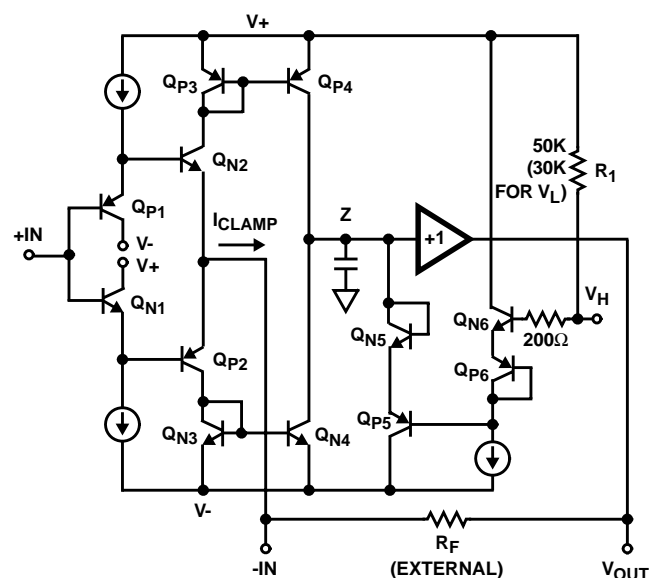

FIGURE 1. HFA1130 SIMPLIFIED V_H CLAMP CIRCUITRY
Figure 1 shows a simplified schematic of the HFA1130 input stage, and the high clamp (V_H) circuitry. As with all current feedback amplifiers, there is a unity gain buffer ($Q_{X1} - Q_{X2}$) between the positive and negative inputs. This buffer forces $-IN$ to track $+IN$, and sets up a slewing current of $(V_{-IN} - V_{OUT})/R_F$. This current is mirrored onto the high impedance node (Z) by $Q_{X3} - Q_{X4}$, where it is converted to a voltage and fed to the output via another unity gain buffer. If no clamping is utilized, the high impedance node may swing within the limits defined by Q_{P4} and Q_{N4} . Note that when the output reaches it's quiescent value, the current flowing through $-IN$ is reduced to only that small current ($-I_{BIAS}$) required to keep the output at the final voltage.
The clamped output voltage will not be exactly equal to the voltage applied to V_H or V_L . Offset errors, mostly due to V_{BE} mismatches, necessitate a clamp accuracy parameter which is found in the device specifications. Clamp accuracy is a function of the clamping conditions. Referring again to Figure 1, it can be seen that one component of clamp accuracy is the V_{BE} mismatch between the Q_{X6} transistors, and the Q_{X5} transistors. If the transistors always ran at the same current level there would be no V_{BE} mismatch, and no contribution to the inaccuracy. The Q_{X6} transistors are biased at a constant current, but as described earlier, the current through Q_{X5} is equivalent to I_{CLAMP} . V_{BE} increases as I_{CLAMP} increases, causing the clamped output voltage to increase as well.